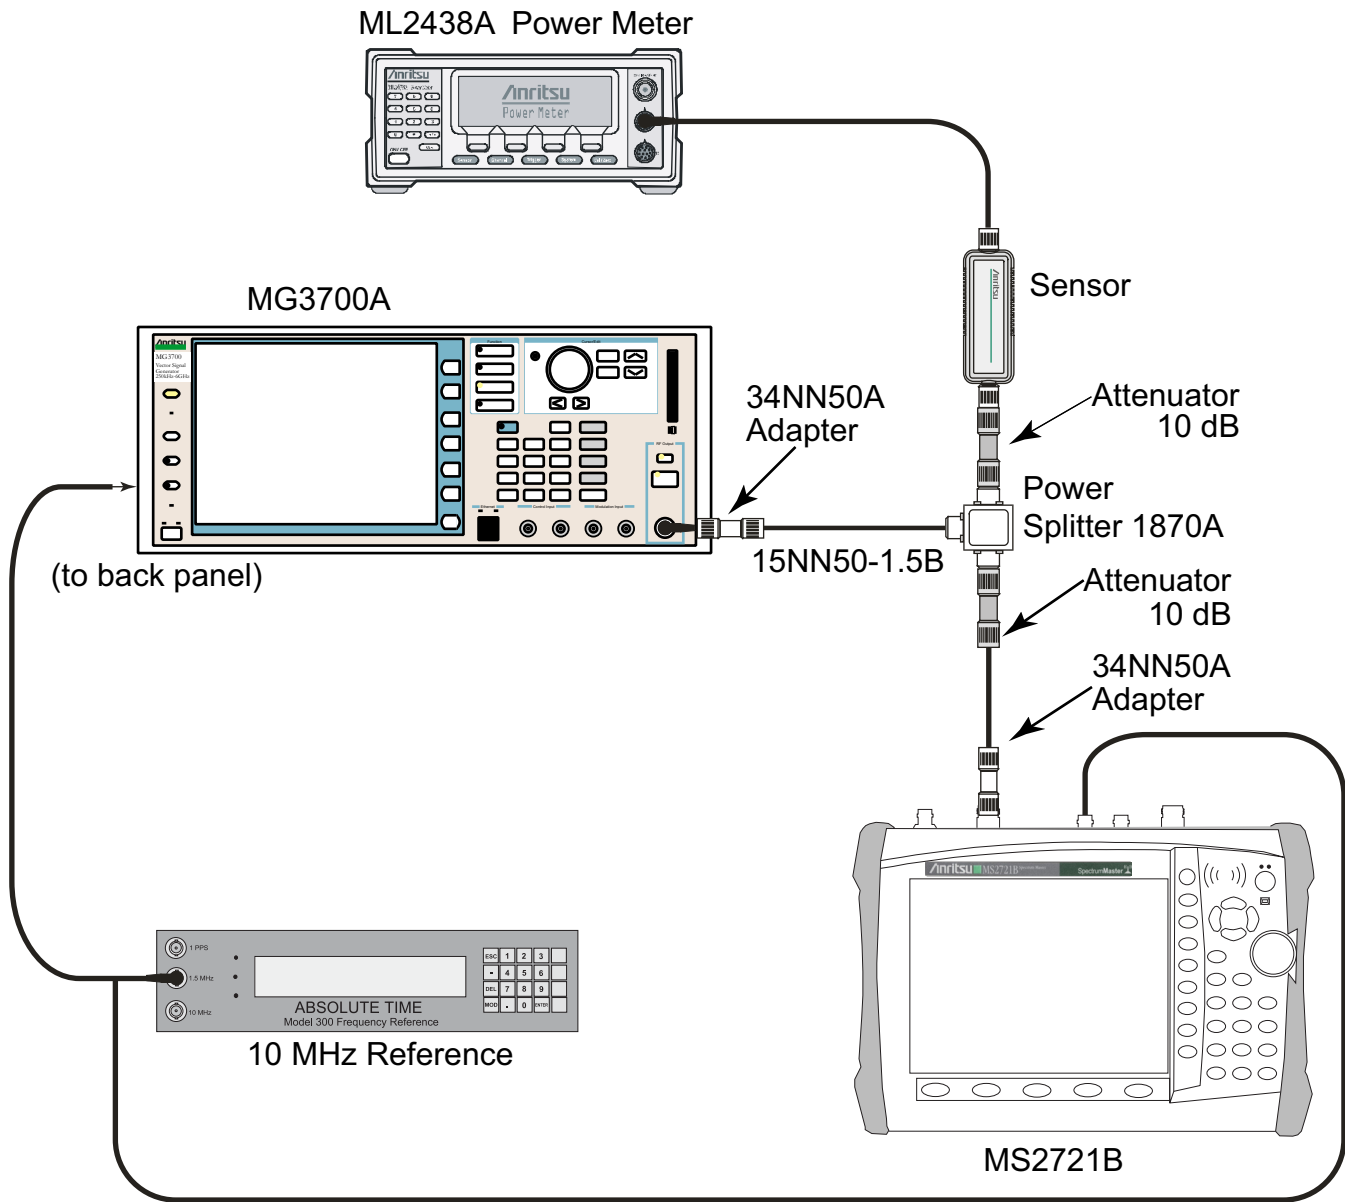

Figure 3-29. LTE Signal Analyzer Option Verification
4. Connect all of the test equipment as shown in Figure 3-29.